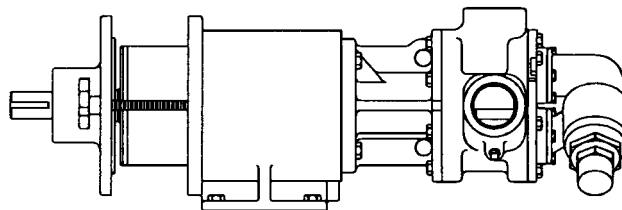

FIGURE 18
4. The outer magnet should be installed into the bearing housing, if not refer to Disassembly & Assembly of Bearing Housing. Install hand knobs so that 4" of threads are projecting below housing. Support bearing housing from overhead and gently position magnet over canister so the magnet assemblies start to engage. Evenly back out the hand knobs. See Figure 18. the bearing housing move toward the bracket as the hand knobs are removed.